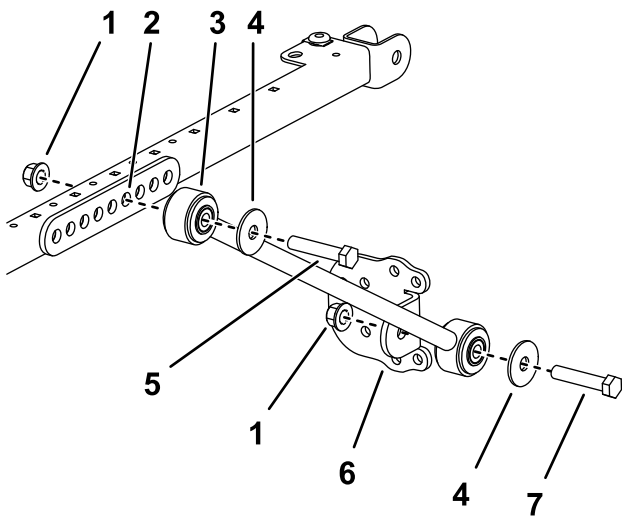

Figure 20
- On each side of the sunshade frame, loosely mount an extension link to the fourth hole of the brace mount with 2 bolts (1/2 x 2-3/4 inches), and 2 flange nuts (1/2 inch) as shown in Figure 20.
13. Loosely install a brace bracket to each brace with a bolt (1/2 x 2-1/2 inches), washer (1/2 inch), and flange nut (1/2 inch) as shown in Figure 20.